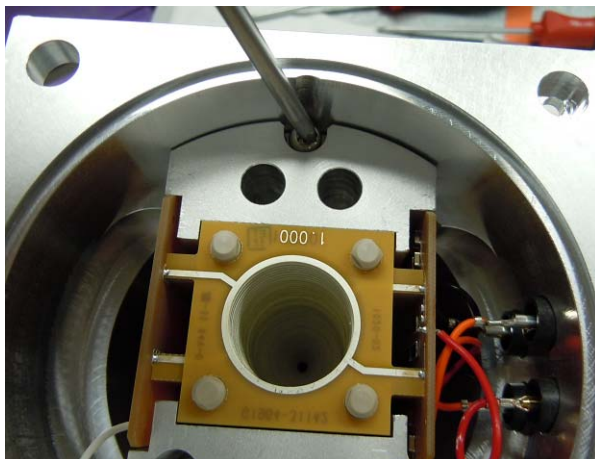

Figure 66 Loosening captive screw on the High Pressure Ion Funnel.
- 4 Loosen the two captive screws that secure the ion funnel to the housing. See Figure 66.